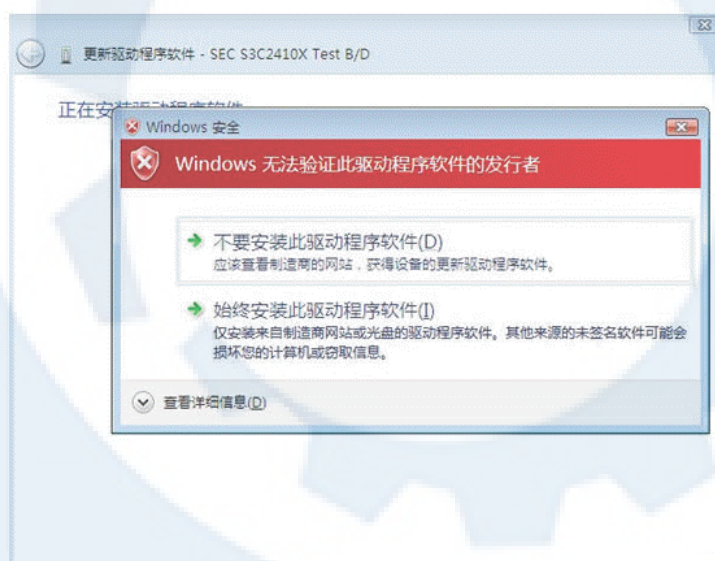

Figure 2-25: Driver installation
- Choose “Always install this driver software”. See Figure 2-25.